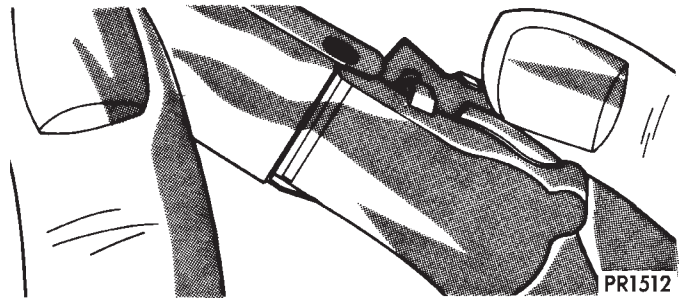

Fig. 5 Removing Wiper Arm
(1) Lift the arm to permit the latch (Fig. 5) to be pulled out to the holding position then release the arm. The arm will remain off the glass in this position.
(2) Remove the arm from the pivot by using a rocking motion.
(1) Remove windshield wiper arms (Fig. 5).
(2) Open hood assembly.
(3) Remove cowl top plenum grille.
(4) Remove hoses from hose connectors.
(5) Remove cowl plenum chamber plastic screen.
(6) Remove wiper pivot retaining screws.
(7) Push pivots down into plenum chamber.
(8) Remove nut from wiper motor output shaft and remove linkage assembly.
(9) Disconnect wiper motor wiring harness.
(10) Remove mounting screw and nuts from wiper motor.
(11) Remove wiper motor.